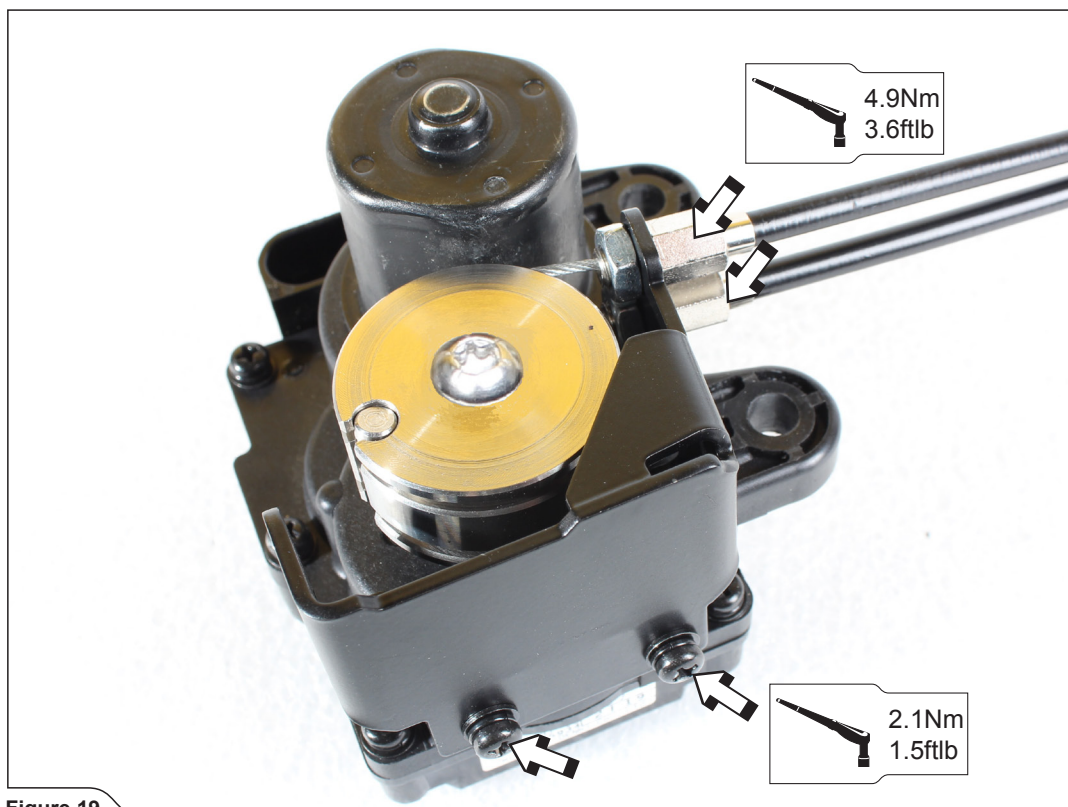

Figure 19
2. Tighten cables onto the bracket and the cable bracket onto the servo motor, as shown (Figure 19).